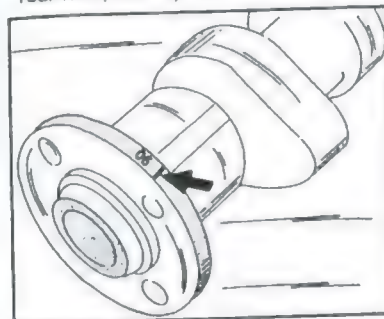

Fig. 1.70 - Camshafts are marked with a number at the position shown by the arrow.
Except for the number of bearing journals and cams, a similar camshaft is fitted to all 601/602 engines. The shaft of the four-cylinder engine has five bearing locations, the shaft of the five-cylinder has six. To identify the camshaft a number is stamped into the rear face, at the position shown by the arrow in Fig. 1.70.
- If a new camshaft is fitted, refer to the identification numbers (shown in Fig. 1.70) or consult your dealer. A new shaft should be inserted into the bearing bores (well oiled) to carry out the following checks: